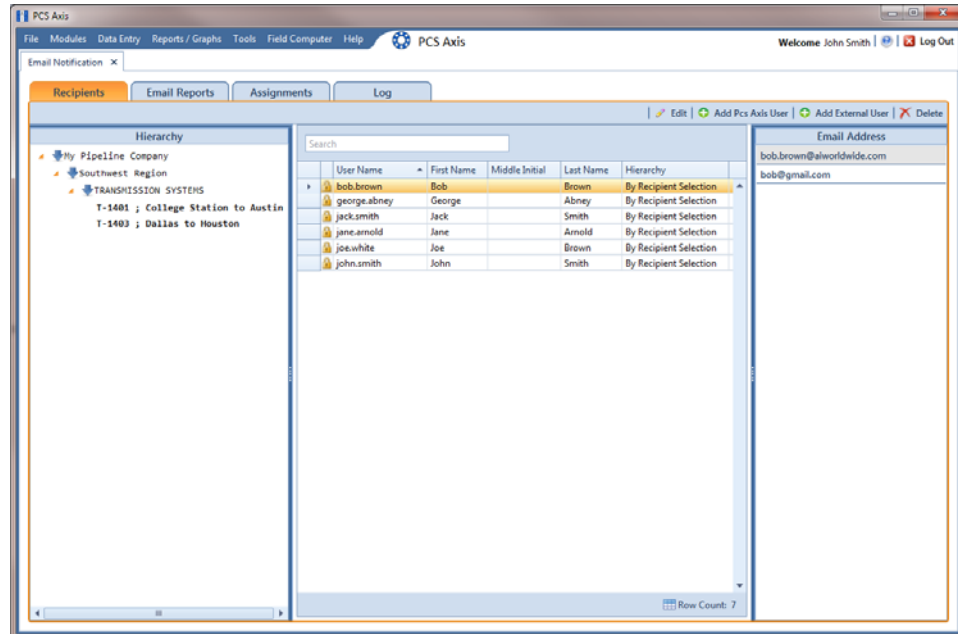

Figure 12-1. Recipients / Add PCS Axis User
- 3 Select a user name in the center panel (Figure 12-1, page 497).